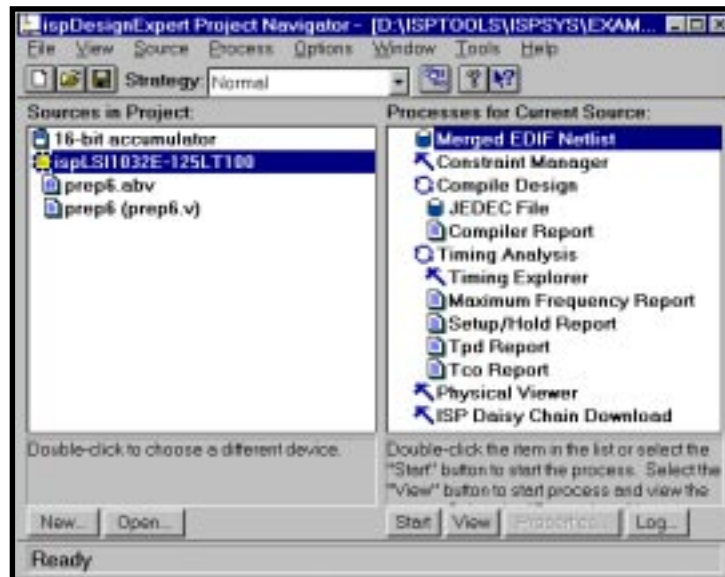

Figure 3-28. Verilog HDL Design Flow
1. In the Project Navigator, select the target device icon to display the associated processes in the Processes window as shown in Figure 3-28.